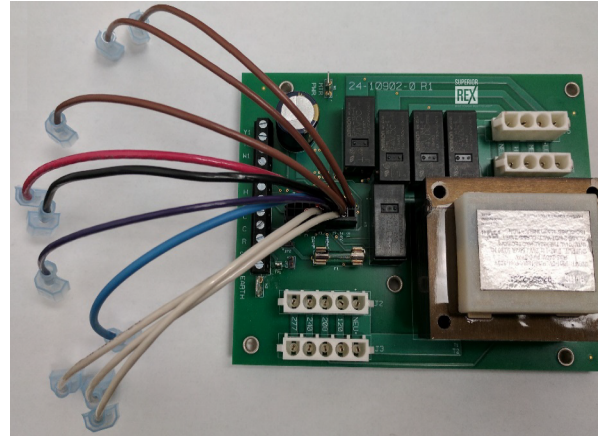

Figure 20 – WH1 on J1 of FRBii
- v. Take BLACK wire removed from R on “24 VAC” portion of FCRB in Step 4 and install on male-quick/BROWN wire on WH2 (see Figure 20).
- iii. Take PURPLE wire removed in Step 4 and install on male quick-connect/WHITE wire on WH2 (see Figure 20).